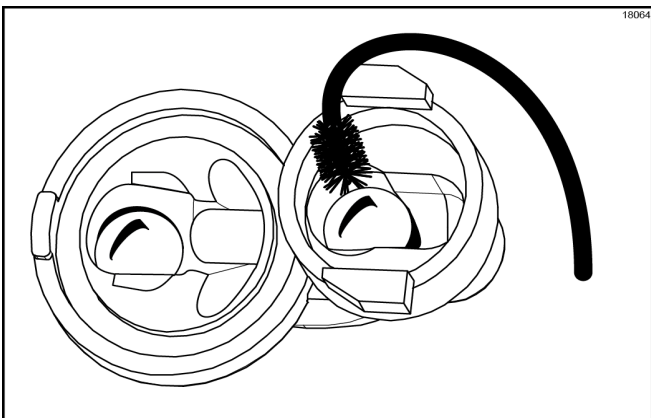

Figure-83
5. Insert the black shielded brush into the top side of the outlet valve. Scrub this area, specifically around the steel ball. (See Figure-83.)